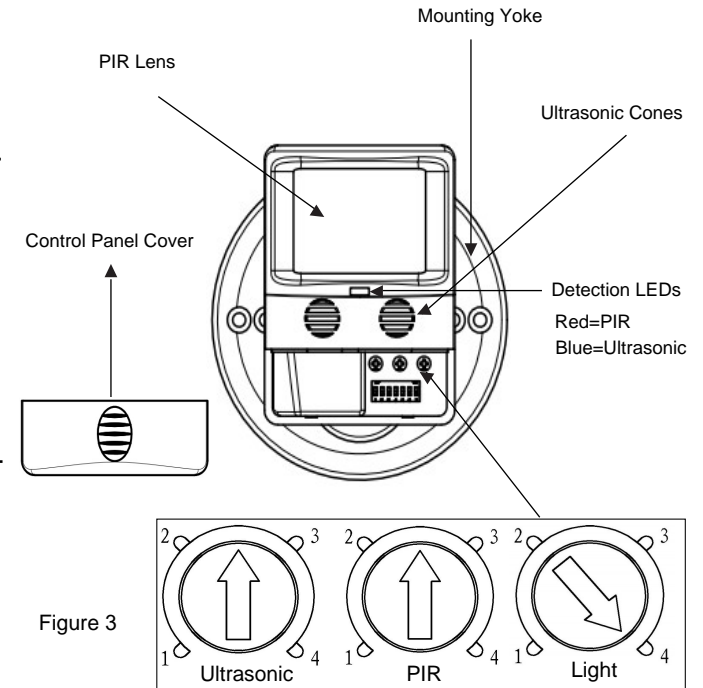

Figure 3
7. Locate the adjustment knob on the control panel to perform test and adjustment.(illustrated as Figure 3.)